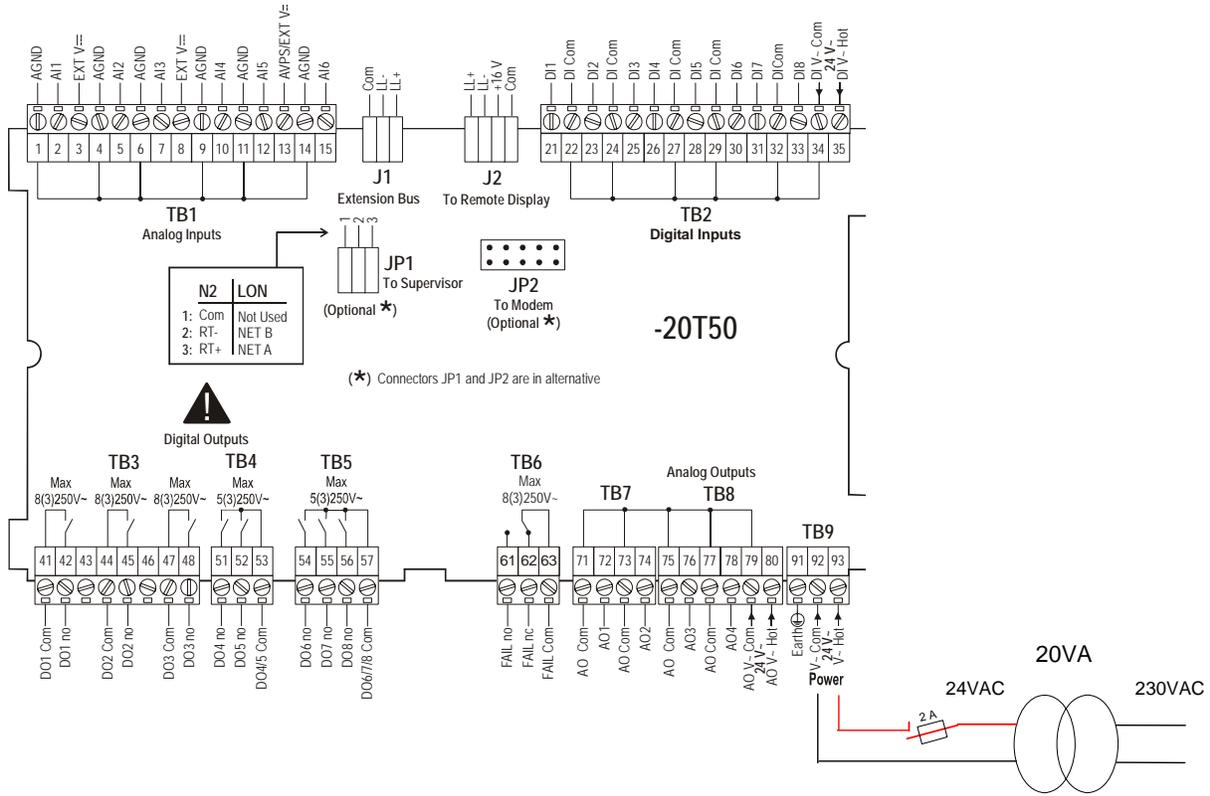

Figure 41: Powering FX16X Rev. A Controller and I/Os
In the FX16X Rev. A controller, the power supply is isolated from the Central Processing Unit (CPU) circuits and is connected internally to the Analog Output (AO) and Digital Input (DI) power supply. External power supply connections for the AO and Digital Output (DO) circuits are not required. Run the power supply cable to the controller (Figure 41), adding an external fuse (2 ampere) to protect against incorrect wiring.